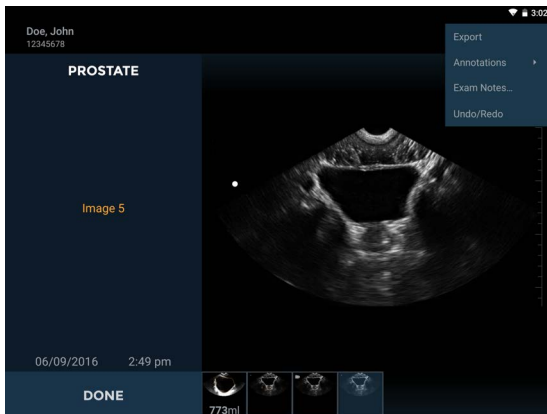

FIGURE 37. Annotating
2. Select **Annotation** from the drop-down list box (FIGURE 37. Annotating).